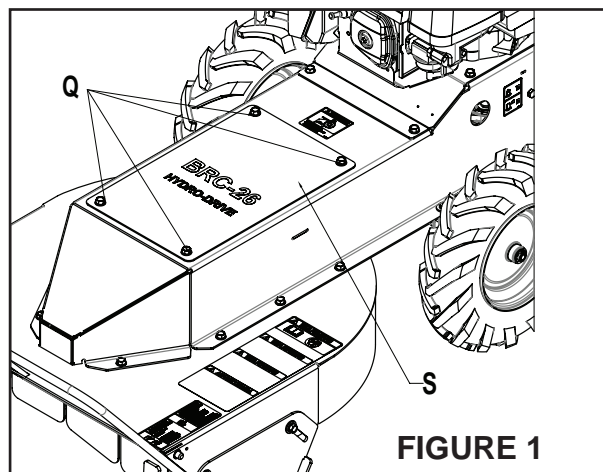

FIGURE 1
1. Remove the four bolts **Q** holding the Blade belt cover **S** on. **(Figure 1)**
2. Loosen the two bolts **H** holding the skid plates **G** on each side of the machine. **(Figure 1)**